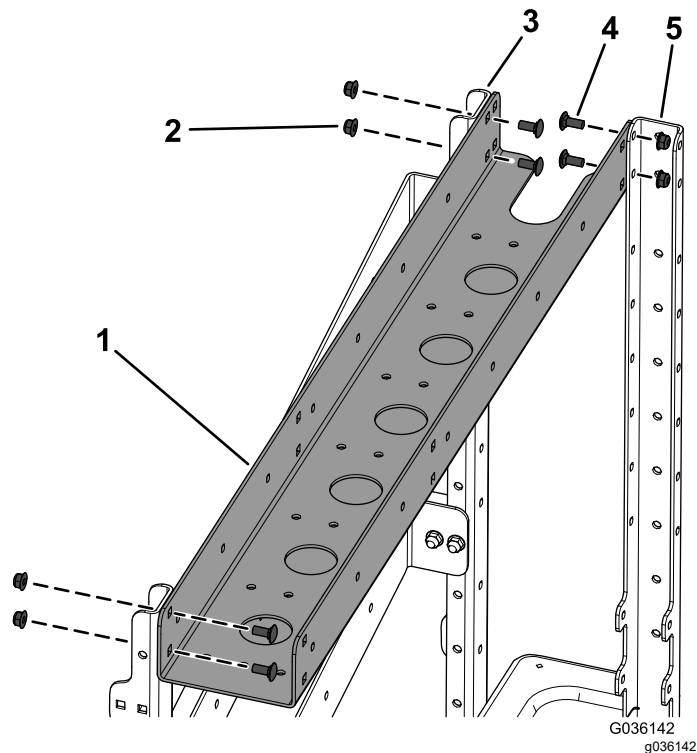

Figure 5
4. Install the pipe bracket to the 2 side upright frame brackets and front upright frame bracket with 6 carriage bolts (5/16 x 3/4 inch) and 6 flange nuts (5/16 inch) as shown in Figure 5.